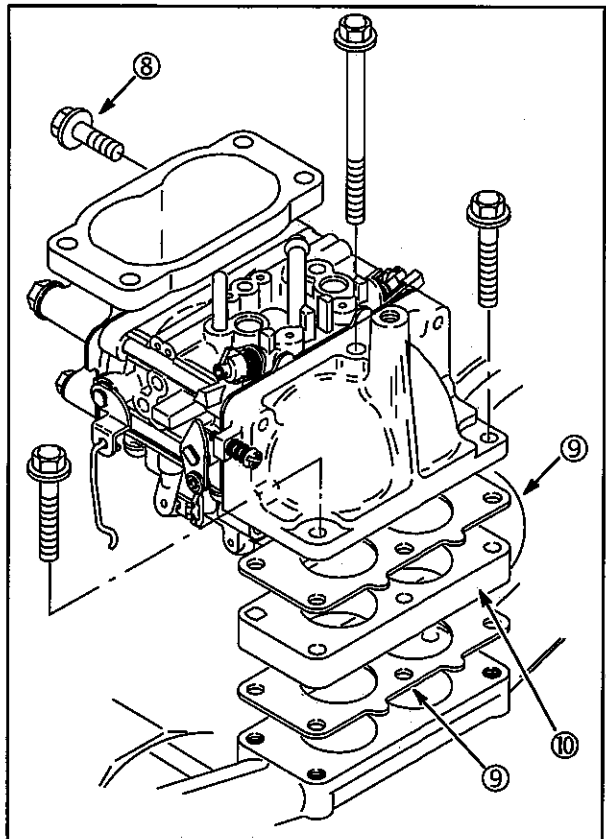

Fig. 19
5. Remove air cleaner elbow support screw (8), Fig. 19.
7. Remove carburetor spacer (10) and gaskets (9).